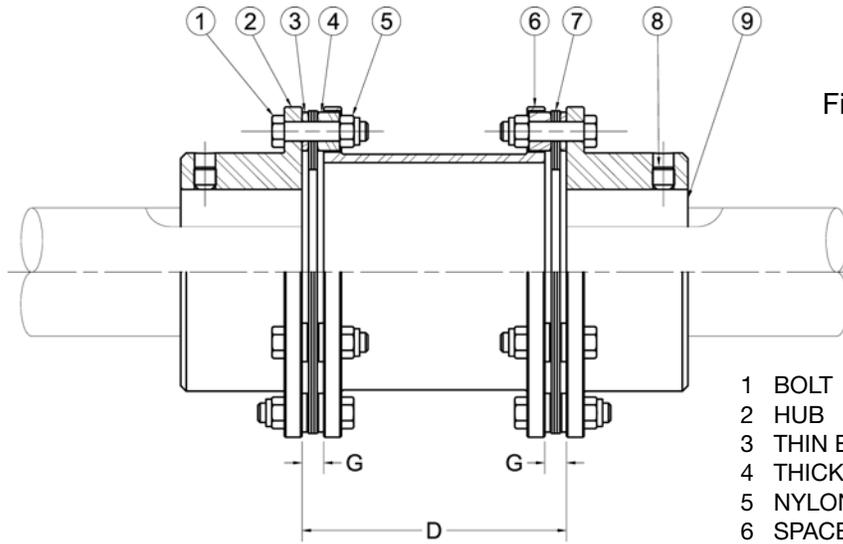

Figure 1
1. Move the equipment to be connected into position. Set the gap between the hub faces to the required distance between shaft ends, "D" dimension in Figure 1. Set the average gap between flanges to the "G" dimension shown in Table 1 for the proper size coupling.